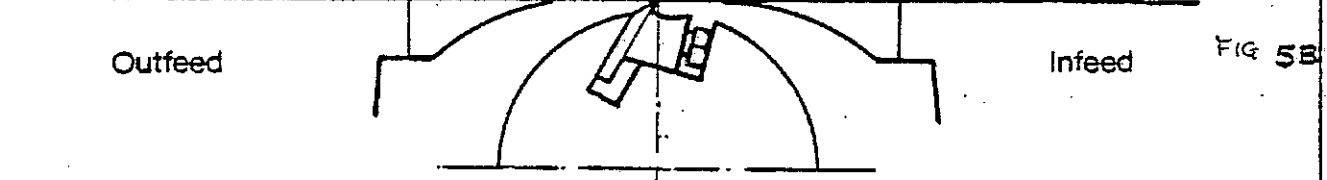

FIG 5B
- 3 :- Raise the infeed table into the top position and check with straight edge to ensure that both infeed and outfeed tables are parallel and level with the cutting circle (FIG.5B).